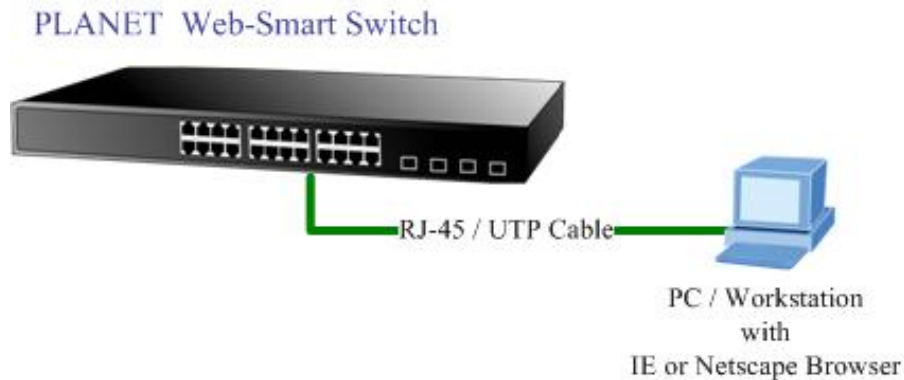

Figure 3-1 Web Management via ethernet
The GSW-1602SF/GSW-2404SF/GSW-2416SF must have an Internet Protocol (IP) address accessible for the remote host. The screen in **Figure 3-1** appears.